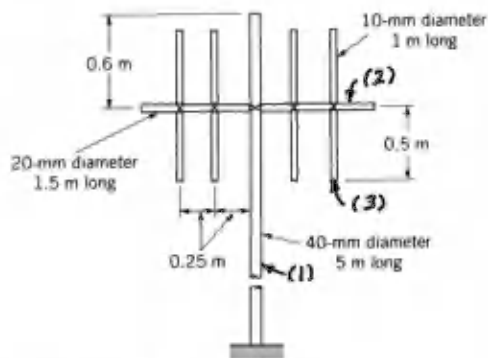

FIGURE P9.14R
9.14R (Drag—composite body) A shortwave radio antenna is constructed from circular tubing, as is illustrated in Fig. P9.14R. Estimate the wind force on the antenna in a 100 km/hr wind.